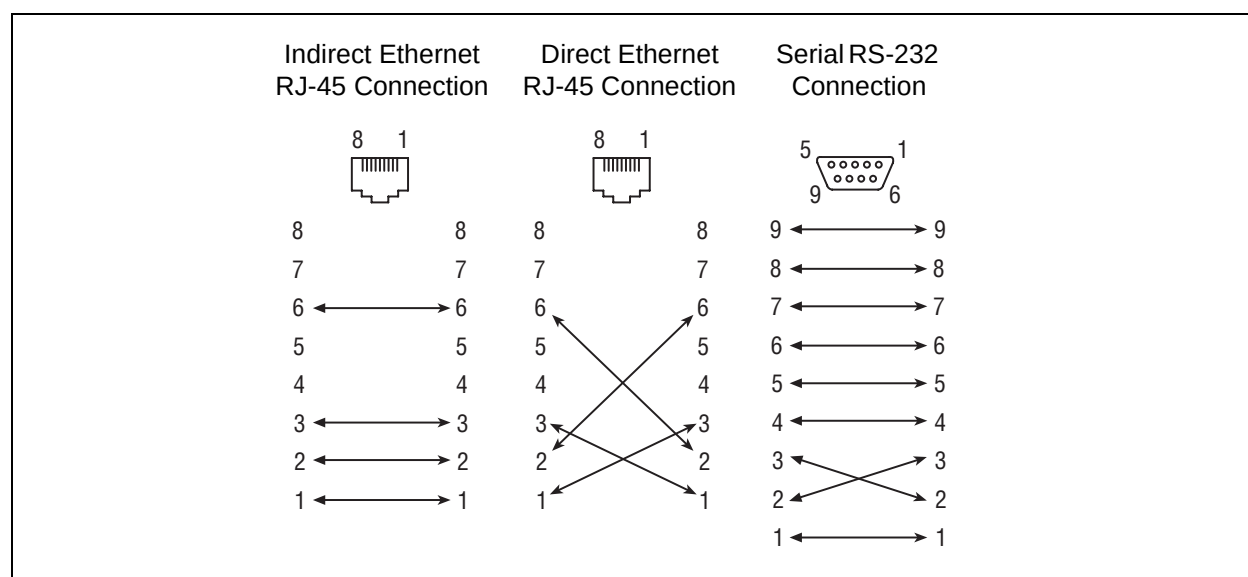

Figure 4-3. Ethernet and Serial Cable Connections
- Indirect Ethernet connection from the management workstation to the switch RJ-45 Ethernet connector through an Ethernet switch or a hub. This requires a 10/100 Base-T straight cable as shown in Figure 4-3. With this method, you can manage the switch with SANbox Manager or the CLI.
- Direct Ethernet connection from the management workstation to the switch RJ-45 Ethernet connector. This requires a 10/100 Base-T cross-over cable as shown in Figure 4-3. With this method provides, you can manage the switch with SANbox Manager or the CLI.
- Serial port connection from the management workstation to the switch RS-232 serial port connector. This requires a null modem F/F DB9 cable as shown in Figure 4-3. With this method, you can manage the switch with the CLI.